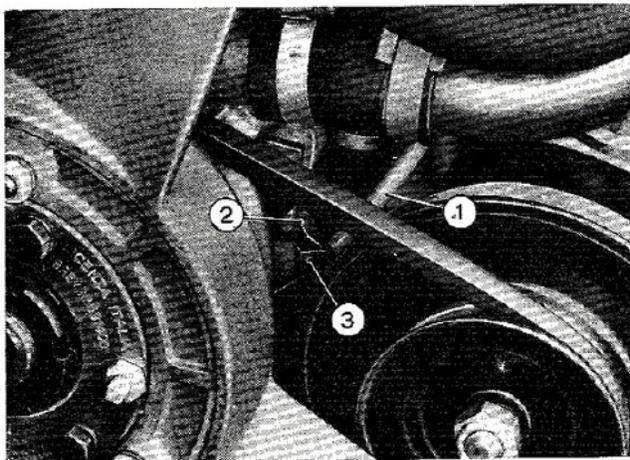
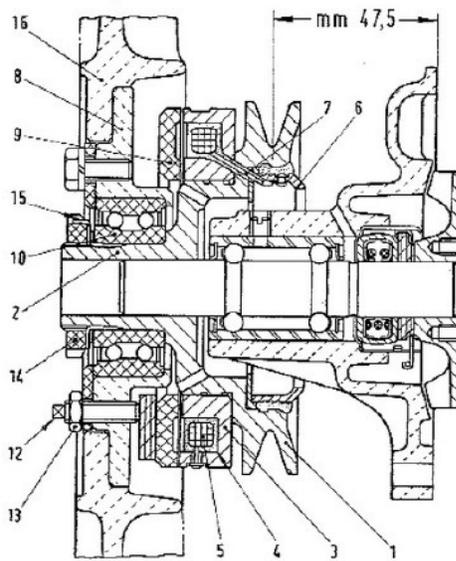

Fig. 56. - Detail of electrical connection between thermostatic switch, carbon contact and slip ring.
Fig. 57.
shaft and with the seats designed to receive the electromagnetic yoke (3, fig. 57) and slip ring (6). The electromagnetic yoke (3) is made of magnetic
2) **Fan-hub unit**, including the hub (2, fig. 57) on which the fan (16) and the electromagnet armature (9) are fixed.
- slacken the locknuts (13, fig. 57) of adjustment screws (12);
- turn in or out screws (12), as required, measuring each time the air gap with a feeler gauge near the screw used for the correction;
- after adjustment, tighten nuts (13) of screws (12).
- wipe accurately slip ring (6, fig. 57) with a clean cloth;
- unhook spring fastener (2, fig. 56), pull out brush holder (18, fig. 59) and check wear and contact conditions of carbon (17) and of its pressure spring; make sure the carbon contact slides freely in its seat. Replace worn parts as required; .
- upon reassembly, make sure spring fastener (2, fig. 56) exerts sufficient pressure.
If after joining the wires, the fan does not engage, the trouble may be due to failure of the lead (7, fig. 57) connecting the slip ring to the coil; also in this case, continuous operation of fan may be ensured — **temporarily** — by proceeding as described under para. 2).
To replace pulley (1, fig. 57) and electromagnet (5), proceed as follows:
- Free the spring fastener of brush holder (18) and take off the holder.
- Straighten the lock plate (15, fig. 57) and using wrench **A. 50090**, remove the slotted ring (14) locking the fan support bearing (10).
- Pull out fan assembly (16) with hub (2), electromagnet armature (9) and bearing (10).
- With the proper puller, extract the electromagnet-pulley assembly (1 and 3, fig. 57) from water pump bearing shaft.
pump cover seating plane is 47,5 mm (1.87") (fig. 57).
- Temporarily fit the brush holder (18, fig. 57) into its seat and check, by turning the pulley, that brush (17) seats evenly all around slip ring (6).
- With a press, drive the pulley (1, fig. 57), complete with electromagnet, onto the pump bearing shaft. The two parts must be perfectly co-axial and the specified pinch fit for a correct assembly is 0,012 to 0,06 mm (.0005" to .0024"). The parts must be so assembled that the **distance between pulley groove centerline and water**
- On pulley hub (2, fig. 57) fit fan (16) complete with its hub (8), electromagnet armature (9), bearing (10) and lock plate (15); using wrench **A. 50090** lock the bearing by slotted ring (14) and secure in place by suitably bending the lock plate.
Next, insert brush holder (18, fig. 57) in its seat and secure in place with the spring fastener (2, figs. 56 and 61).